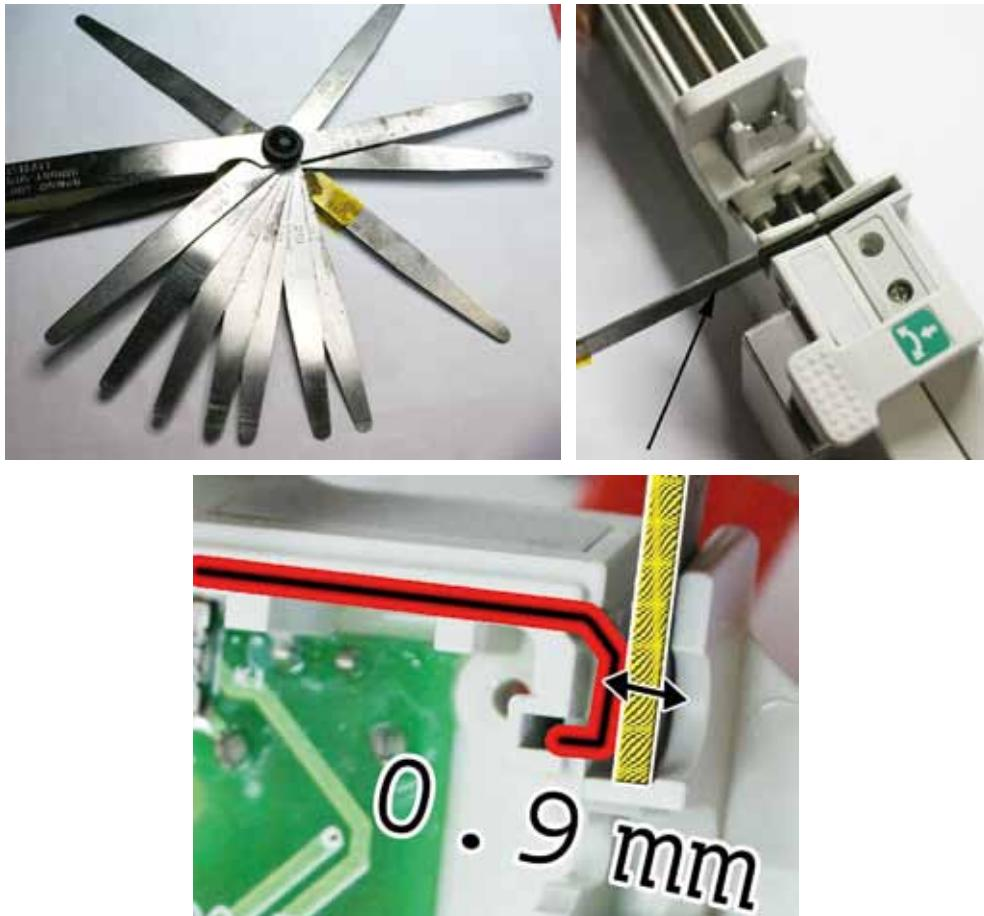

Figure 27. Metric feeler gauge (right), measuring 0.9mm (left and bottom)
- g Check with a metric feeler gauge that the distance between the indented contact and the housing is 0.9mm (Figure 27).